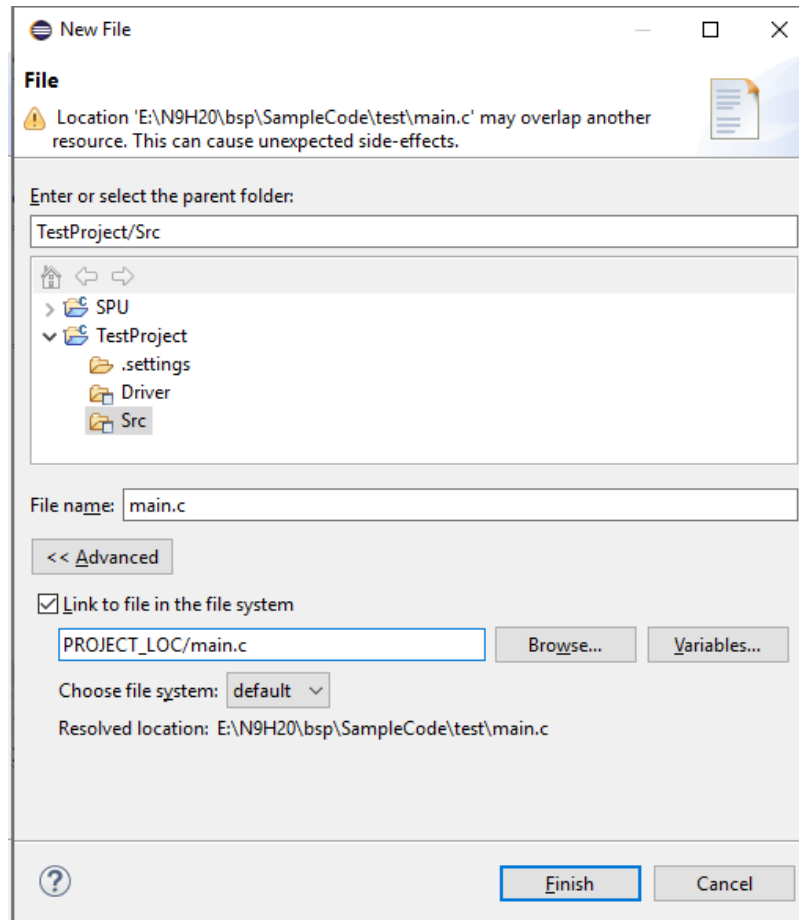

Figure 2-18 Add Necessary File in Src Folder
- Setup another virtual folder name “Src” and then add necessary files as shown in Figure 2-18.